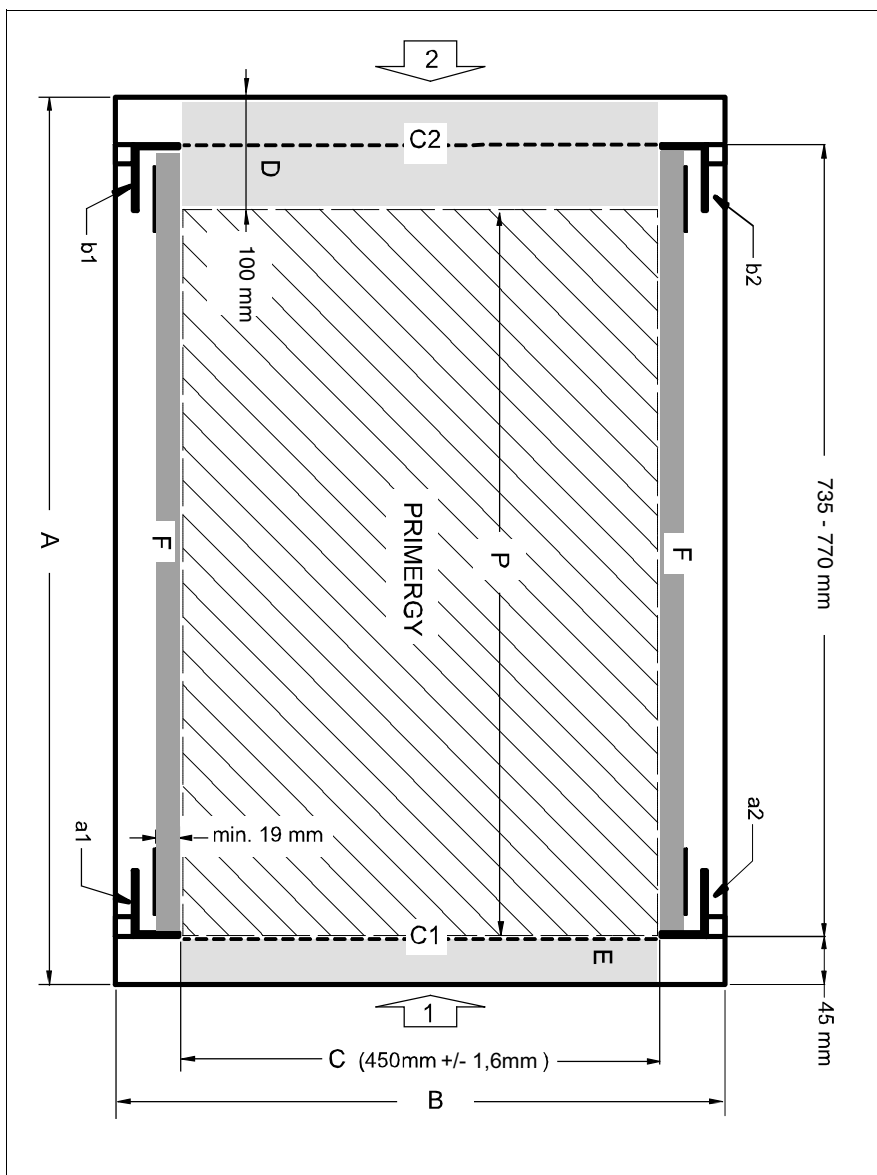

Figure 3: Mechanical requirements
– Installation dimensions (see the dimensions shown in figure 3 on page 47):